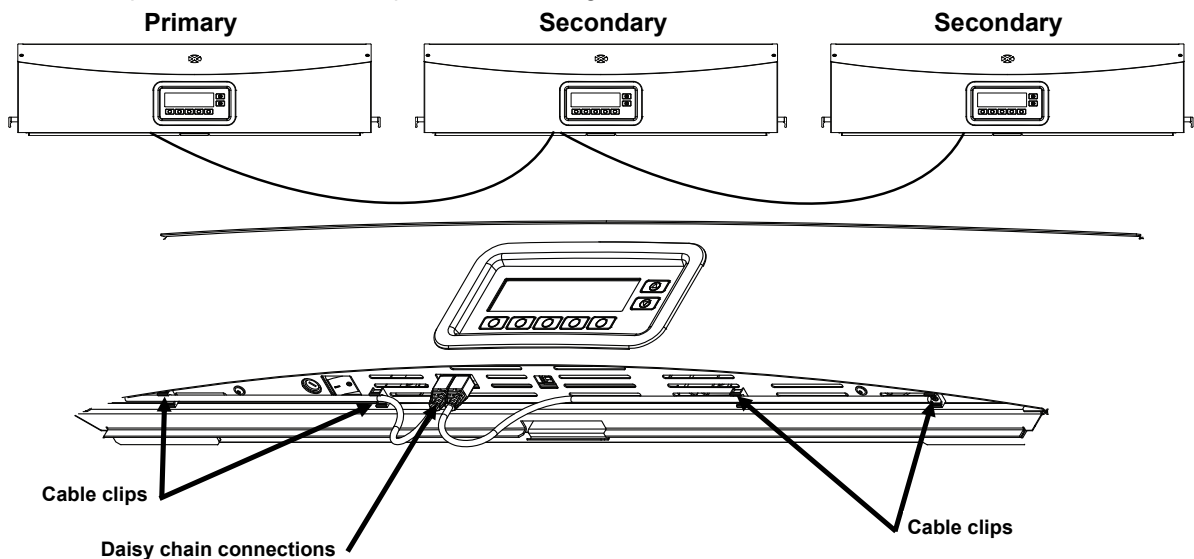

Figure 11. Luminaire Daisy Chain Connection
9. Connect the luminaire with daisy chain cables between the luminaires at the front near the diffuser latch. Use the cable clips to hold the cables in place. Refer to Figure 11.